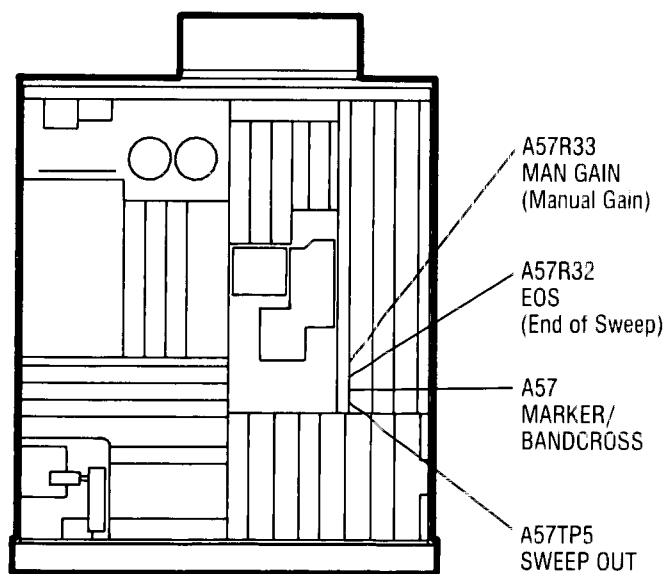

Figure 5-35. Marker Band Crossing Adjustments Location
3. Adjust A57R33 (MAN GAIN, Figure 5-35) for 10.0000 ± 0.0005 Vdc at A57TP5 as indicated on the DVM.
6. Adjust A57R32 (EOS, Figure 5-35) for an indication on the DVM of 10.000 ± 0.0008 Vdc.